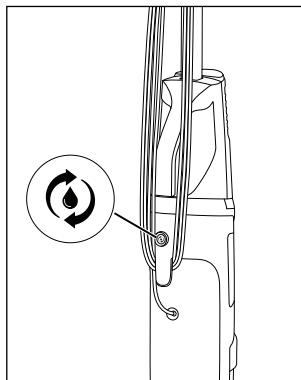

Fig. 32
- ◆ Press the self-cleaning switch **19** (see fig. 32).